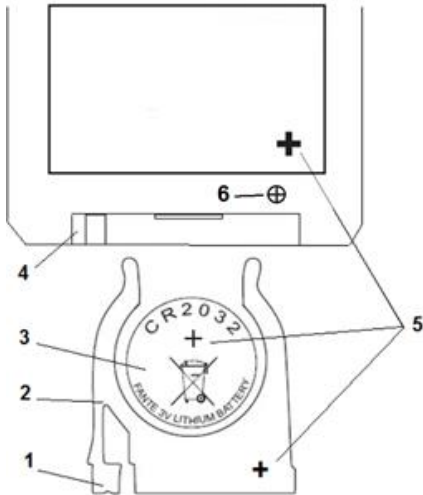

Fig. 13
**BATTERY INSTALLATION IN THE REMOTE CONTROL (Fig.13)**